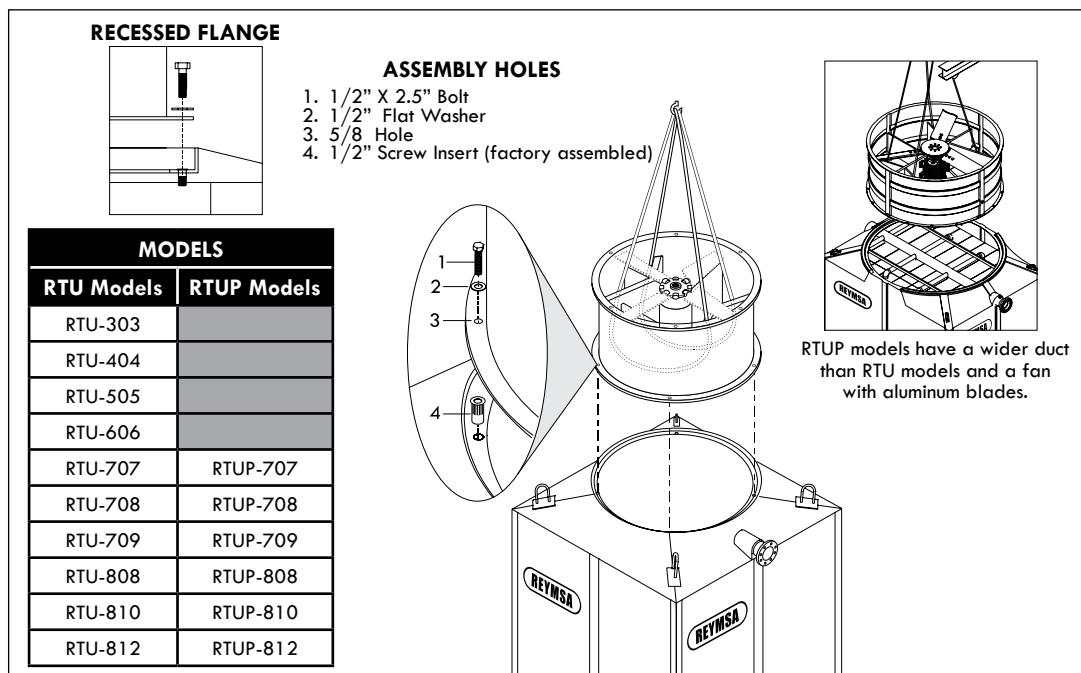

Figure A-36: Fan Duct assembly for a Single Fan Tower
- K. Then cradle/straddle the fan support with the straps (as shown in figure A-36) so you can lift the fan duct with a crane and assemble it.
- L. Now place the fan duct on the receiving flange of the upper section; make sure the bolt holes and the marks inside the fan duct and the distribution manifold (located inside of body section) are aligned (see Figure A-36 and A-37). Secure it with the stainless steel nut and bolt sets supplied by REYMSA.